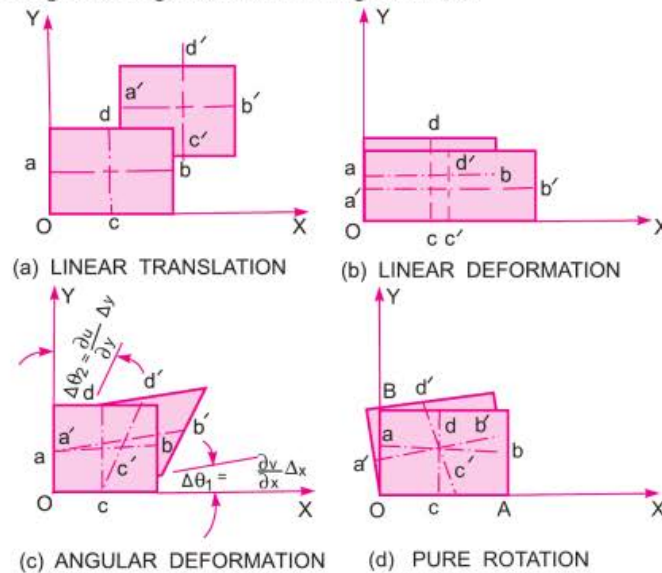

Fig. 5.11. Displacement of a fluid element.
5.9.1 Linear Translation. It is defined as the movement of a fluid element in such a way that it moves bodily from one position to another position and the two axes ab and cd represented in new positions by $a'b'$ and $c'd'$ are parallel as shown in Fig. 5.11 (a).
5.9.2 Linear Deformation. It is defined as the deformation of a fluid element in linear direction when the element moves. The axes of the element in the deformed position and un-deformed position are parallel, but their lengths change as shown in Fig. 5.11 (b).
5.9.3 Angular Deformation or Shear Deformation. It is defined as the average change in the angle contained by two adjacent sides. Let $\Delta\theta_1$ and $\Delta\theta_2$ is the change in angle between two adjacent sides of a fluid element as shown in Fig. 5.11 (c), then angular deformation or shear strain rate
5.9.4 Rotation. It is defined as the movement of a fluid element in such a way that both of its axes (horizontal as well as vertical) rotate in the same direction as shown in Fig. 5.11 (d). It is equal to $\frac{1}{2} \left(\frac{\partial v}{\partial x} - \frac{\partial u}{\partial y} \right)$ for a two-dimensional element in x - y plane. The rotational components are